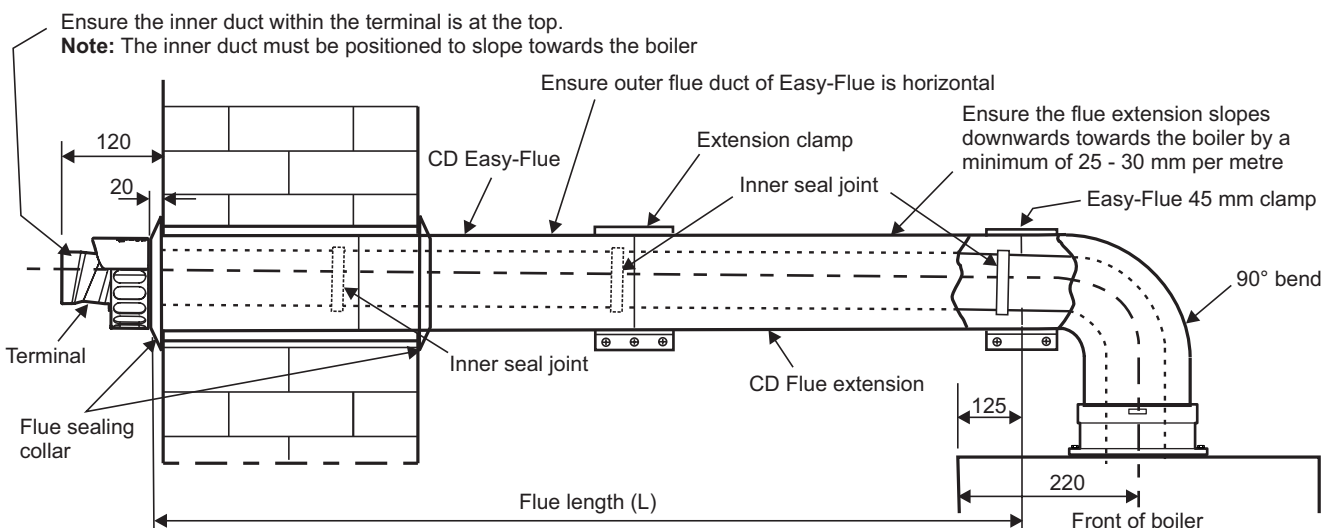

Fig. 5.13 - Side flue
## 5.9 EXTENDING THE FLUE - Fig. 5.13
**Note:** Check the flue terminal protrudes 120 mm out of the wall and that the inner duct of the terminal is positioned correctly, i.e. the inner duct within the terminal is at the top. See Fig. 5.13.